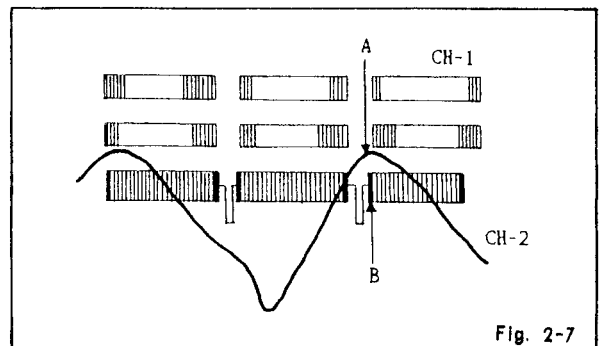

Fig. 2-7
2. Adjust L3702 so that peak of waveform "A" and leading edge of video signal of waveform "B" may become same as shown in Fig. 2-7.